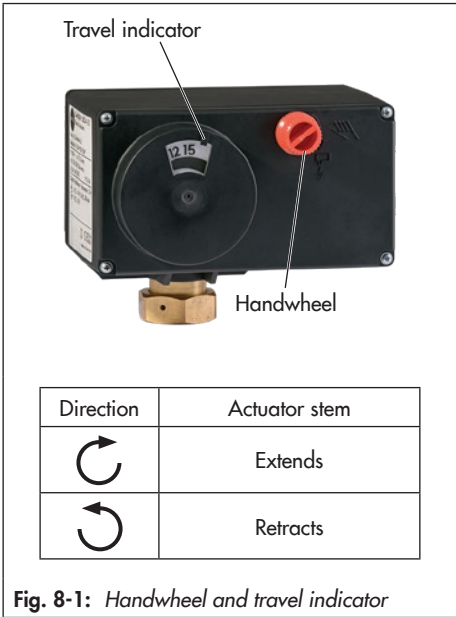

Fig. 8-1: Handwheel and travel indicator
- Turn clockwise: the actuator stem extends (see Fig. 8-1).
- Turn counterclockwise: the actuator stem retracts (see Fig. 8-1).